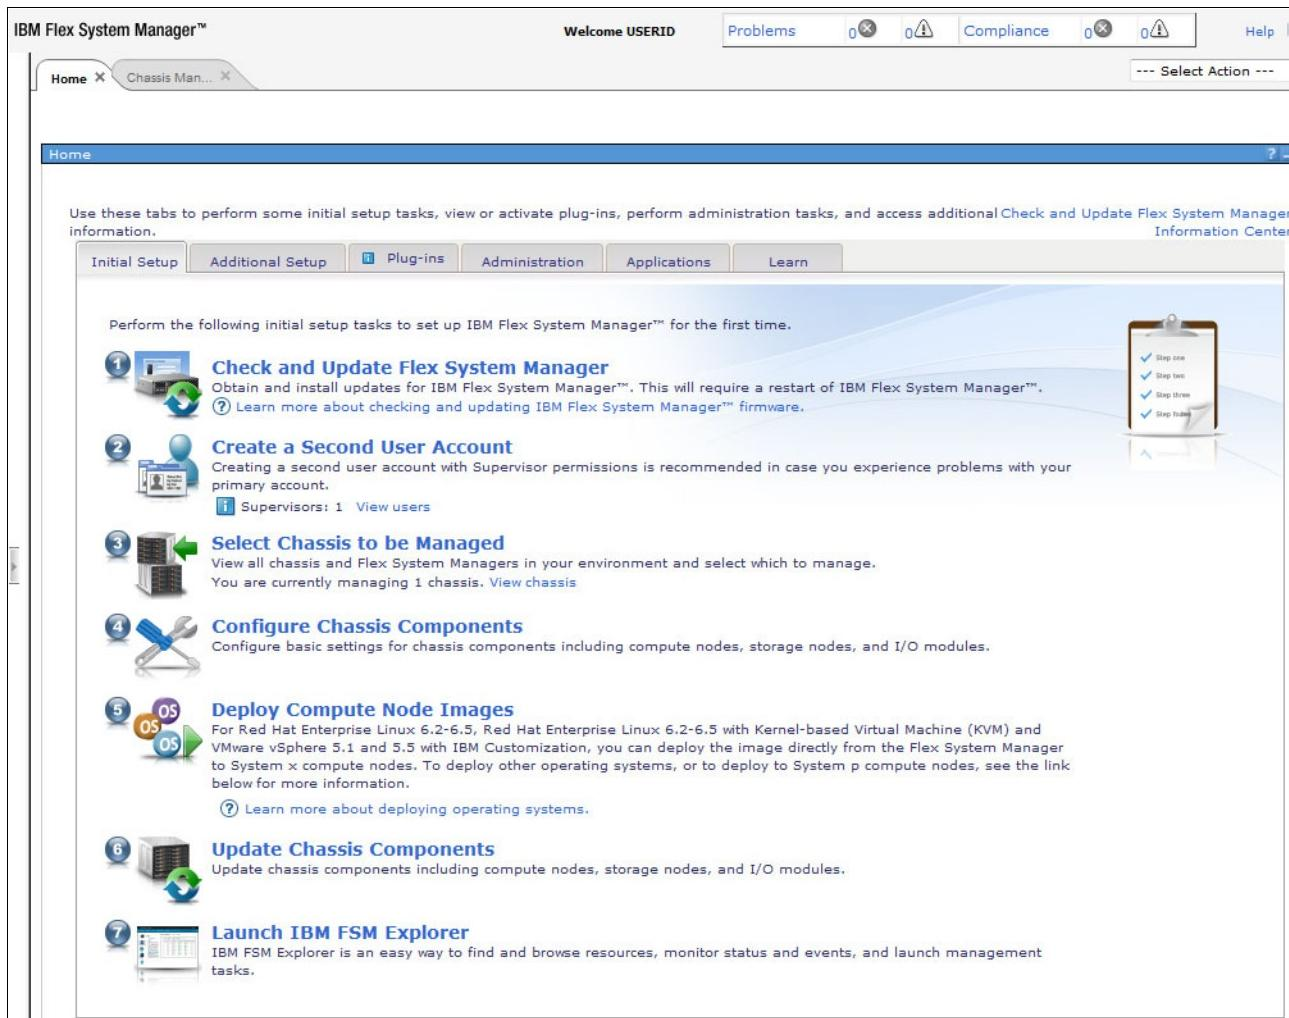

Figure 7-25 Flex System Manager Initial home page
- After login, the home tab view is displayed, as shown in Figure 7-25 on page 168.